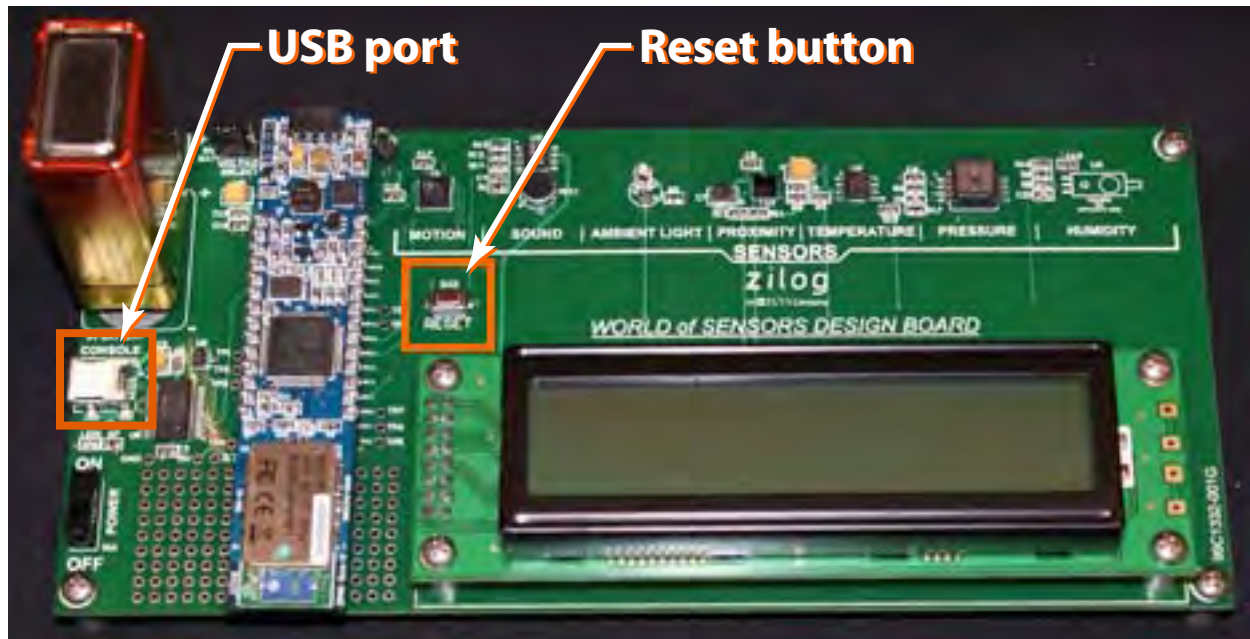

Figure 2. Zilog's World of Sensors Design Board with Module Attached
Figure 2 shows the Board with a battery and a Mini-Z™ Z-PAN® Module mounted onto it. Note the Reset button, which is highlighted in the figure.
1. Connect the USB cable from the PC to the WoS Design Board's USB port. The USB port is located adjacent to the battery terminal and is labeled **CONSOLE**, as shown in Figure 2 on page 2.